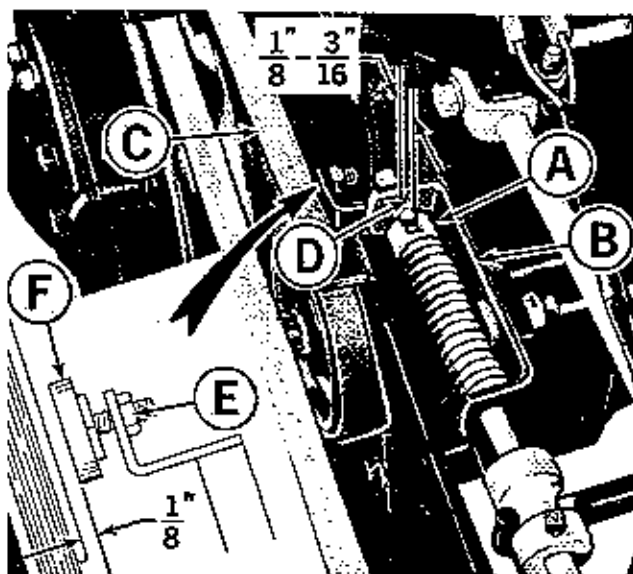

Figure 10. Shuttle drive forward adjustment.
5. See figure 10. Loosen nut (E) and turn brake pad (F) so there is  $1/8"$  clearance between the brake pad and the drive pulley. Tighten nut (E) securely.
6. See figure 10. Use the following procedures to adjust the forward clutch.
- b. See figure 10. Loosen the set screw in collar (A). Push the rod guide assembly (B) forward until slack is removed from the forward drive belt (C).
- e. See figure 10. The distance (D) between the rod guide and collar (A) should be  $1/8"$  to  $3/16"$ . If it is not, repeat steps a. through d. until distance (D) is  $1/8"$  to  $3/16"$ . Place more tension on belt (C) to increase distance (D) or less tension to decrease the distance.
**Will not pull forward with full power.** Repeat adjustment step 6 placing more tension on the clutch belt. (figure 10, item C).
**Tractor creeps forward when control lever is in neutral.** Repeat step 6 placing less tension on the clutch belt. (figure 10, item C).